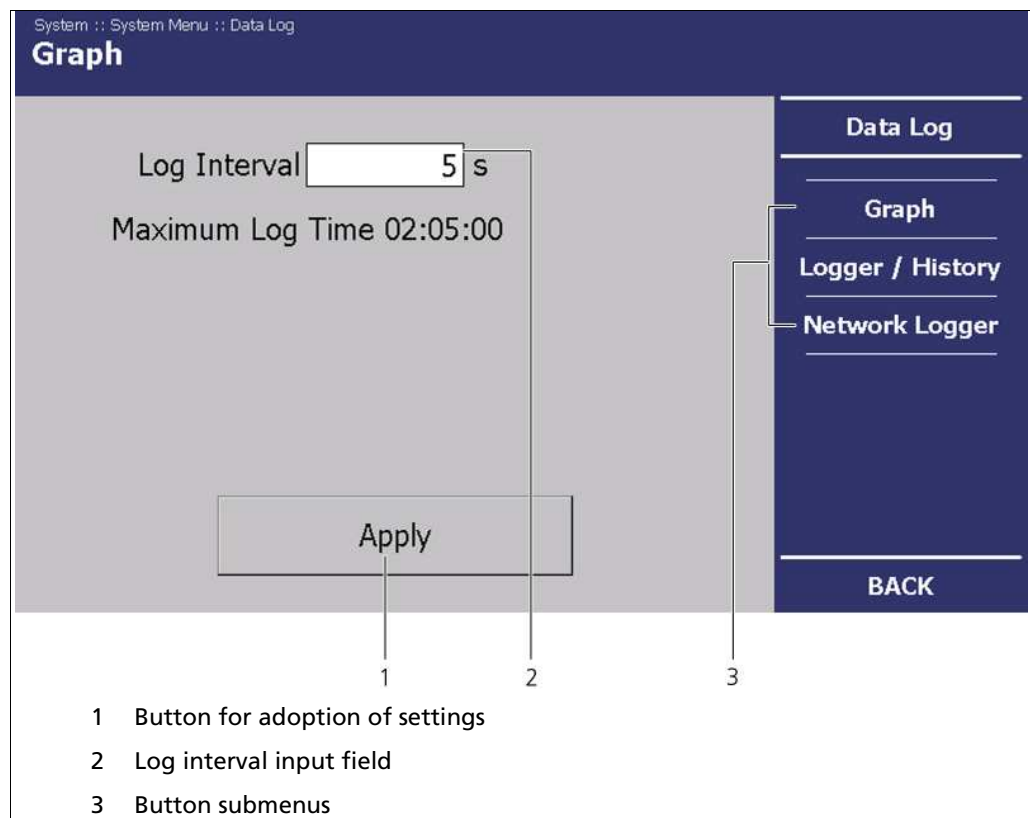

Fig. 33 System Menu. Settings - Data Log (Graph)
1. In the **System Menu | Data Log**, click on **Graph** (Fig. 33, Pos. 3).
In the "log interval" input field, set the interval in which the log data is to be saved (Fig. 33, Pos. 2).
2. Click on the input field to set the log interval (Fig. 33, Pos. 2).
4. Click on the **<Apply>** button (Fig. 33, Pos. 1) to adopt the setting.
- In the **System Menu**, click on **Data Log | Data Logger** (Fig. 33, Pos. 3) to reach the Data Logger submenu.
In the System menu, click on **Data log | Network logger** (Fig. 33, Pos. 3).